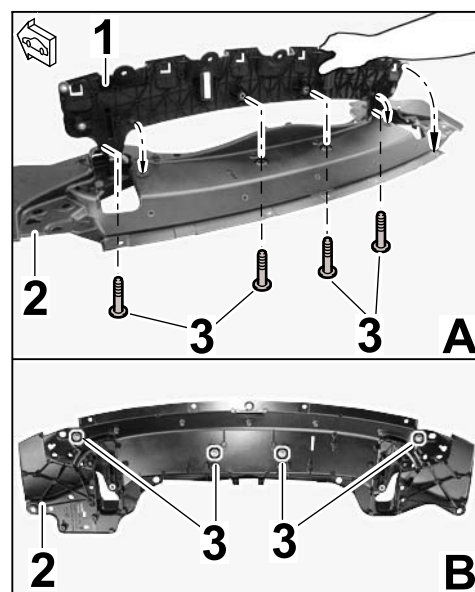

Figure 5
- 3.1.2 Position mounting adapter on mounting bracket (⇒ *Figure 5 -arrow-*).